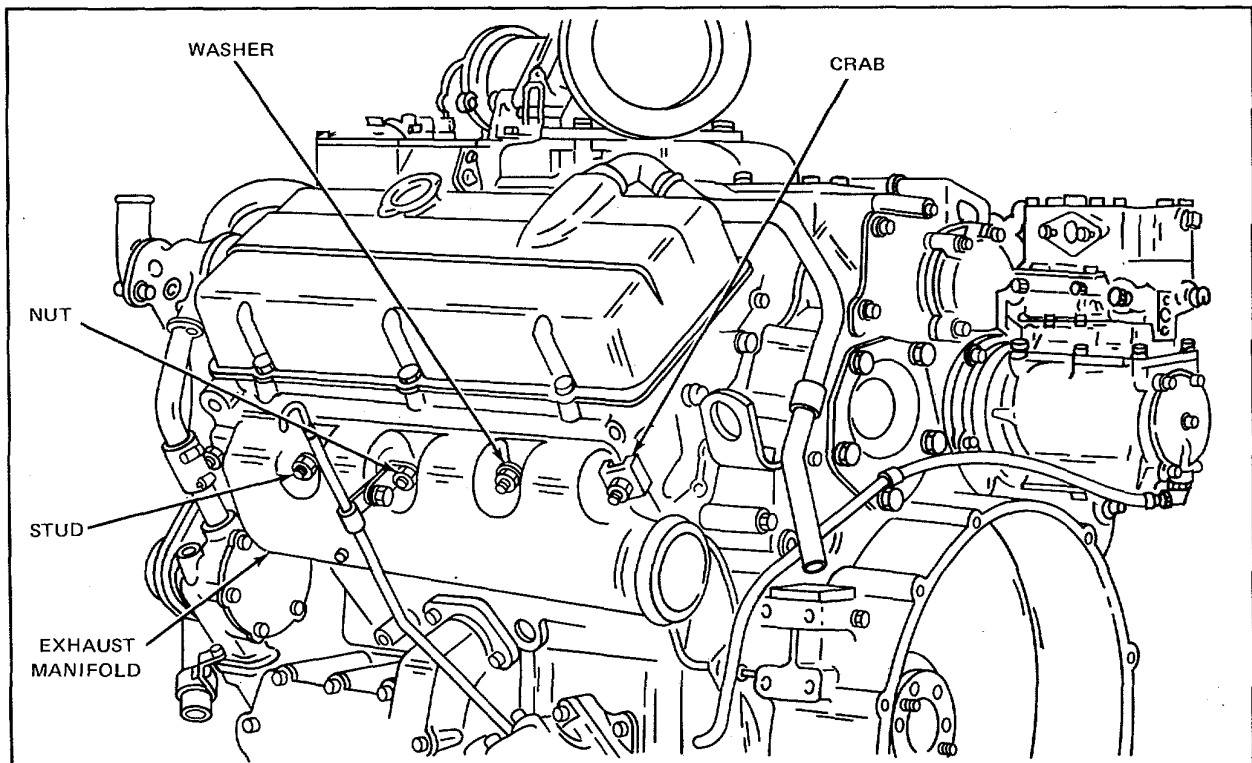

Figure 2 . Exhaust Manifold with Marmon Flange
3. Install the washers and nuts on the studs. If beveled (dished) washers are used, position them so that the crown side faces the nut. On some engines, crabs are used in place of washers at the end positions (Fig. 2). Beginning with one of the center stud nuts and working alternately toward each end of the manifold, tighten the nuts to 30-35 lb ft torque.